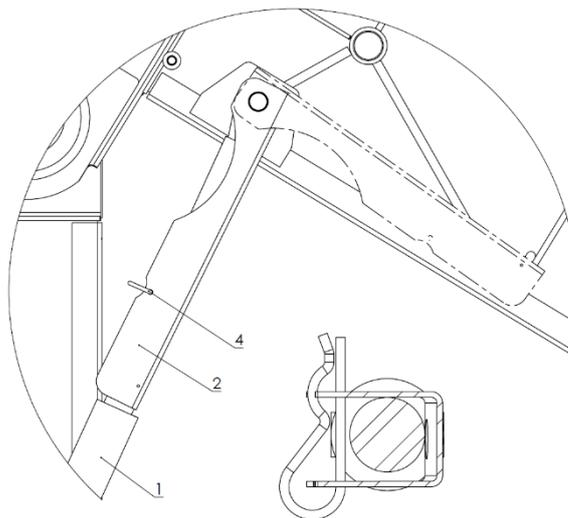

Figure 3 Locks for securing the cylinders
Secure the lifted baler cover in its upper position, as shown in Fig. 3. On both sides of the baler, use the clamps (2) fixed to the upper pins of the hydraulic cylinders (1) to secure